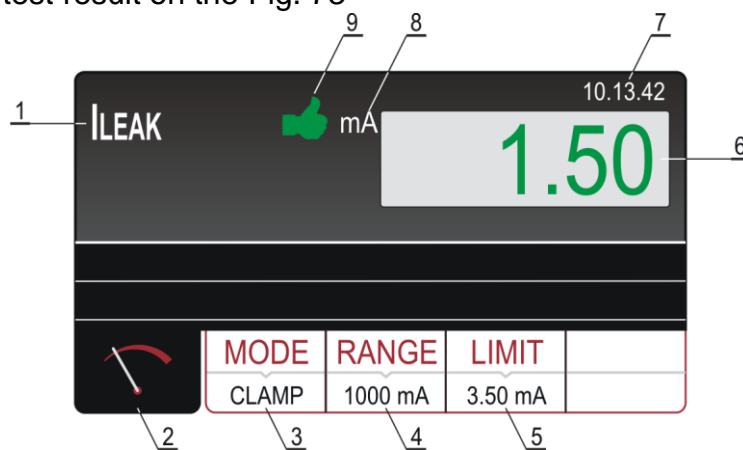

Fig. 73 : Visualization of ILEAK test result
8. Start the measurement by pressing the **START/STOP** key. The measurement will start to run and will be stopped after pressing the **START/STOP** key again. Measurement result will be currently displayed in green color if it is lower than or equal to set limit value or in red color if it is higher than set limit value. Final result will be equipped with green 🍏 symbol and with acoustic sound if it is OK or with red 🍏 symbol and with longer acoustic sound if it is not OK. See the display outlook with test result on the Fig. 73